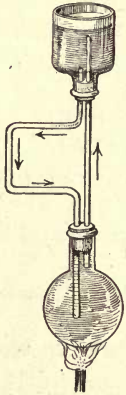
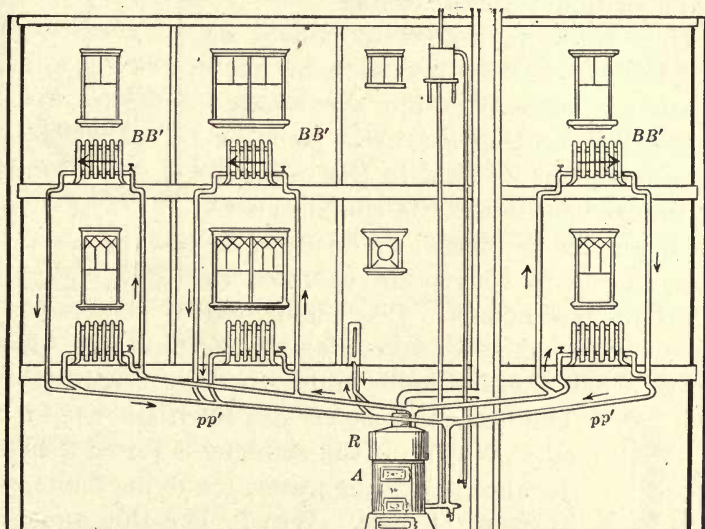

FIG. 128. — Convection Currents in a Liquid.
FIG. 129. — Hot-water System for House Heating.
**Hot-water Heating.** — Figure 128 shows an arrangement which illustrates the principle of hot-water heating. The whole apparatus is filled with water, the water in the upper vessel being colored. When heat is applied to the lower vessel, convection currents will be produced, as indicated by the arrows.
There are several different ways of arranging hot-water systems. One arrangement is shown in Figure 129. The water is heated in the jacket around the furnace *A* and rises to the reservoir *R*, returning through pipes *pp'* by way of the radiators *BB'*. The circulation in this system is maintained in the same way as in the apparatus shown in Figure 128.